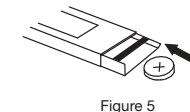

Figure 5
4. Use pointed object such as a pen to remove old battery. Discard battery lawfully. Replace with new 1.5V DC button type LR41 or SR41, UCC392, or equivalent. Be sure battery is installed with " + " polarity facing up. (See Figure 5)